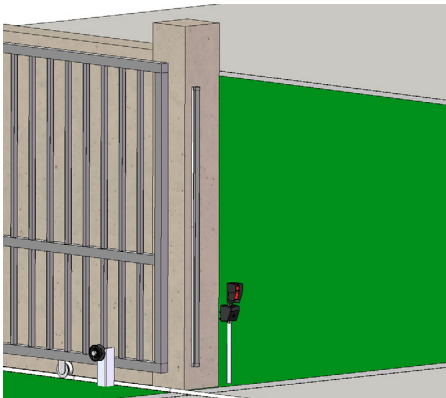

Fig 1
1. Secure the aluminum channel to the selected surface using screws. Fig 1.